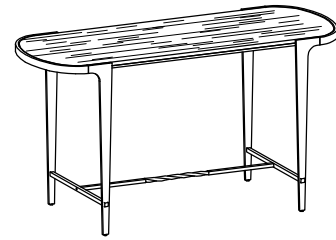

Fig 1
2. Attach both leg frames to the table top using bolt (A), spring washers (C), and flat washers (D), tighten with the wrench (E) as shown Fig 1 (do not over tighten bolt).